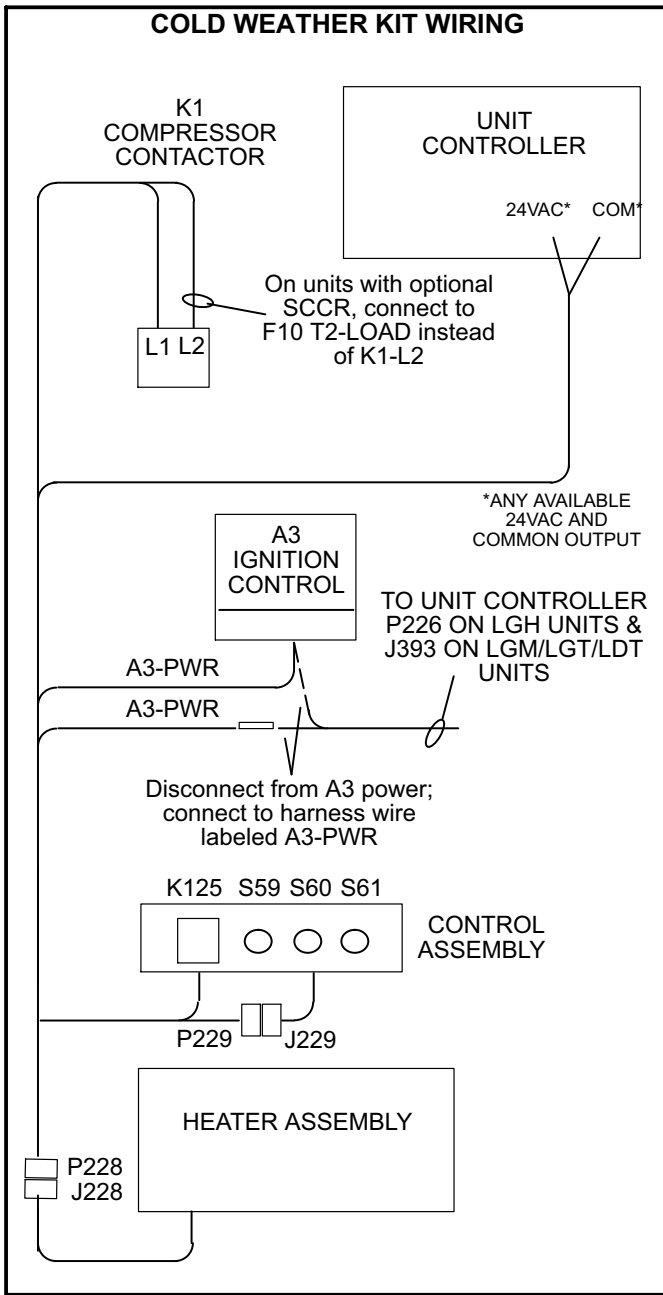
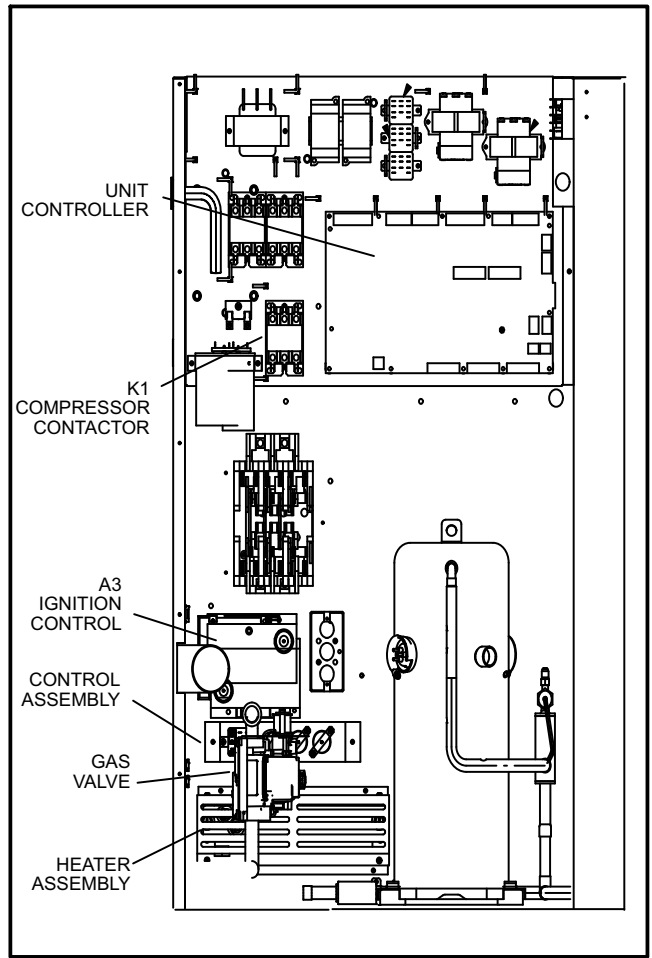

FIGURE 2
FIGURE 3
- 3- Make harness and wire connections as shown in figure 2. Refer to figure 3 for component layout details.